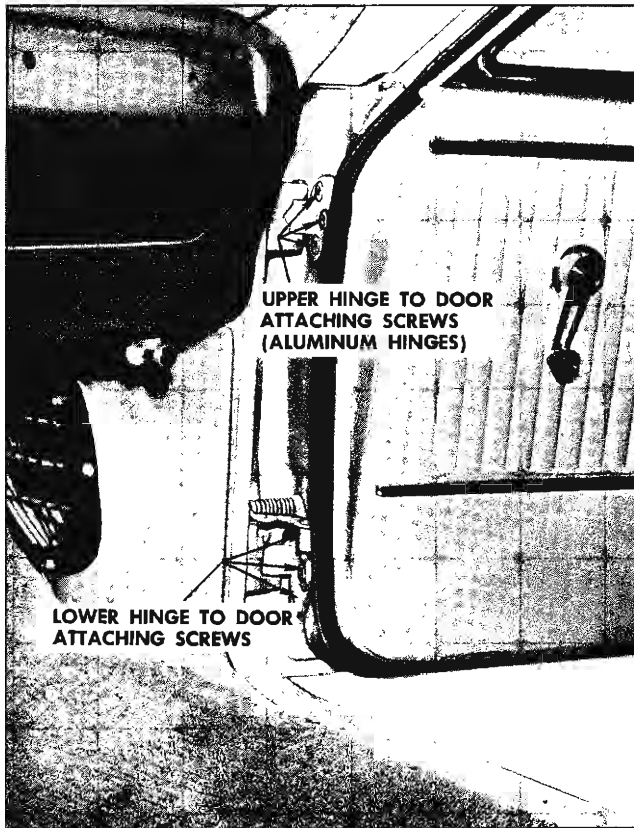

Fig. 12-15 Front Door Hinge Attachment
2. With the aid of a helper, to properly support door, remove screws securing upper and lower hinges to door and remove door (less hinges) from body. Fig. 12-15 illustrates hinge to door attachment on a closed style, but is typical of all styles.